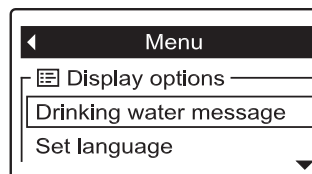

FIG. 106
2. Press the remote's SELECT (○) button to display the drinking water status menu (See Figure 106).
3. If necessary, press the DOWN (▼) button to scroll through the menu options until **Drinking water message** is highlighted in a box (See Figure 106).
6. Press the SELECT (○) button. The display will go back to the menu shown in Figure 106.